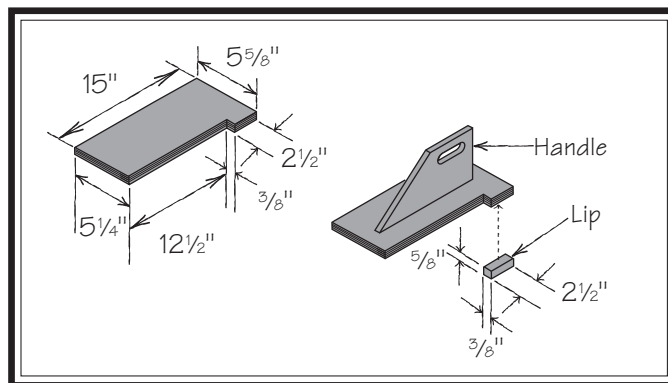

Figure 97. Push block dimensions and construction.
3. Using $\frac{3}{4}$ " material you used in previous steps, cut out pieces for push block per dimensions shown in **Figure 97**; for handle, cut a piece 10" long by 5"-9" high and shape it as desired to fit your hand.